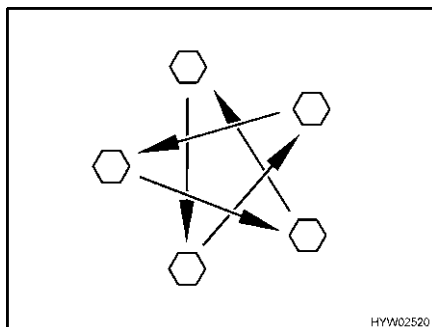

Fig. 292 Tighten the wheel nuts or wheel bolts cross-wise
- Check regularly that the wheel nuts or wheel bolts are firmly seated. Re-tighten the wheel nuts or wheel bolts of a changed wheel cross-wise (Fig. 292) after 50 km (30 miles). See section 13.5.2 for tightening torque.
- ▷ Tighten the wheel nuts or wheel bolts cross-wise (Fig. 292).